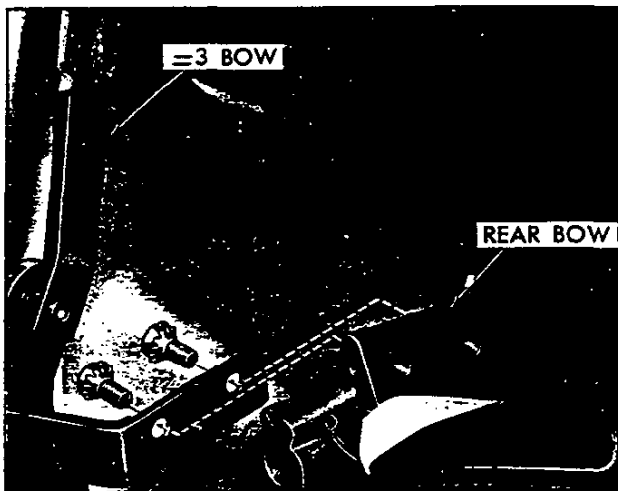

Fig. 71—Rear Bow Retaining Screws
8. Disconnect rear bow from top frame assembly. Two screws retain at each side Figure 71.